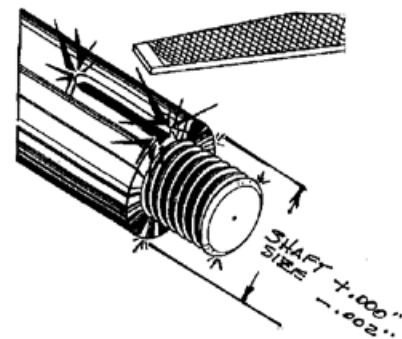

Figure 42
1. Check shaft/sleeve, it should be seal size $+0.000$ " to -0.002 " (0mm to 0.05mm) (Figure 42).
4. Check all keyways, threads, and shoulders for sharp edges, which could damage elastomers. Round edges or tape over before installation (Figure 42).